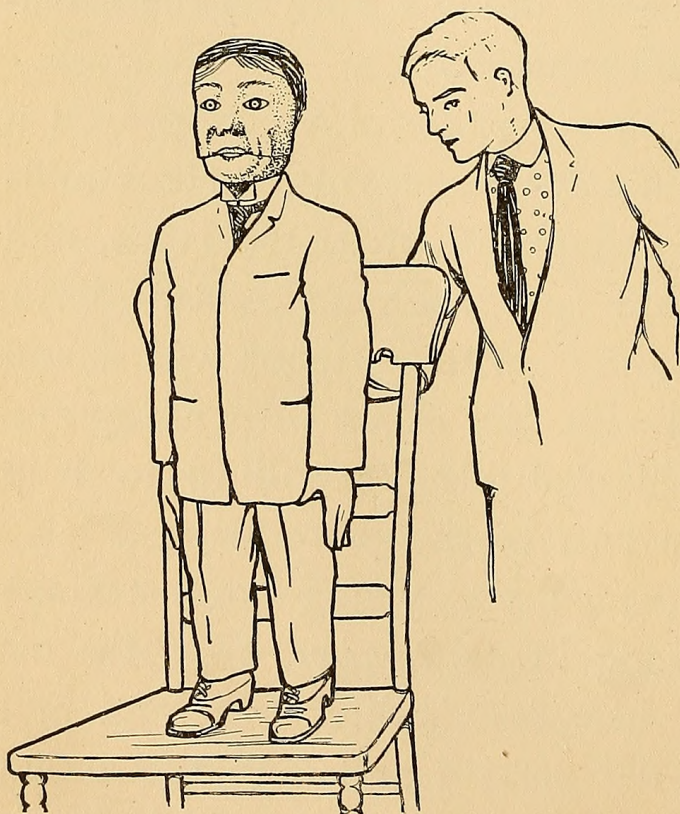

FIG. 341. — The Ventriloquist operating the Speaking Doll.
**A Ventriloquist's Doll** (Fig. 341), and if you haven't the power of throwing your voice and talking without moving your lips, you can obtain just about as good results by having an assistant behind a curtain back